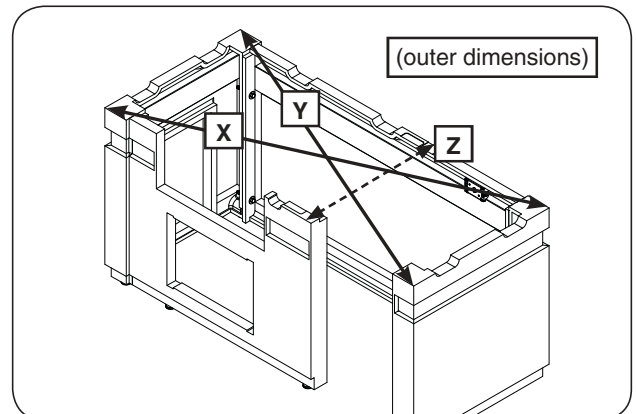

Fig. 8-3 Square unit (then tighten bolts)
- a. Measure the X outer dimension, see Fig. 8-3. It should be approximately:
- b. Measure the Y outer dimension, see Fig. 8-3. Carefully adjust the side walls as needed to ensure the X & Y dimensions are equal. (The final dimension may slightly vary from that mentioned in step a.)
- c. Measure the Z outer dimension, see Fig. 8-3. It should be approximately 30 1/2".